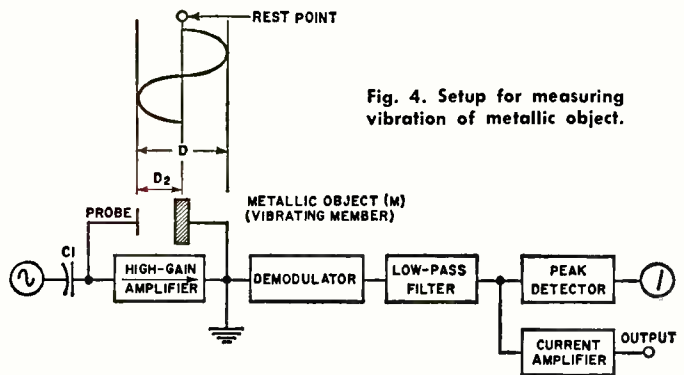

Fig. 4. Setup for measuring vibration of metallic object.
Vibration is measured by the capacitance-probe system, as shown in Fig. 4. The vibrating member (M) begins at a rest point and oscillates through a total distance (D), producing a peak-to-peak sinusoidal wave as shown in the diagram. The signal is then fed to the demodulator as indicated. A rectified signal whose amplitude is directly proportional to the displacement we wish to measure ($D2$) is produced at the demodulator output.